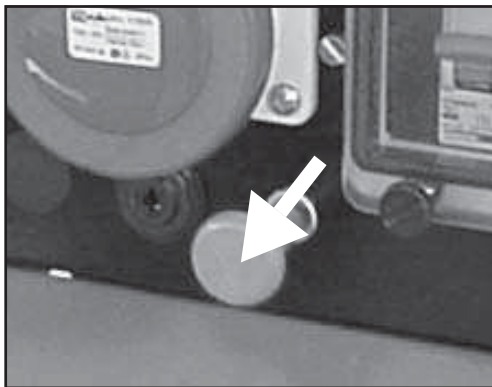

Fig.8
3) Ruggerini engine models: Pull the knob placed on the control panel (see fig. 8). Wait until the engine is completely off. Turn the key to the "OFF" position.